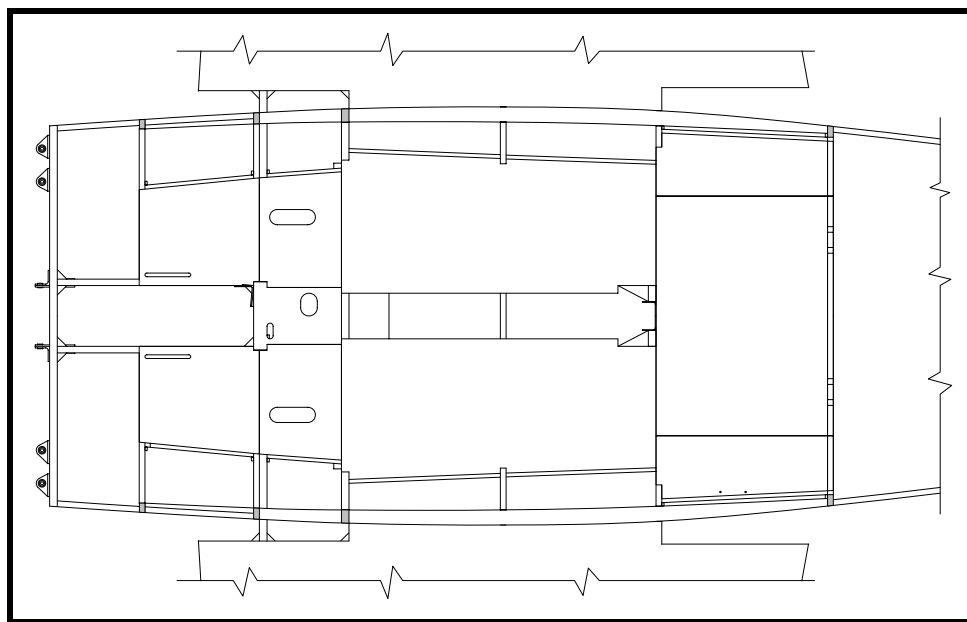

Figure 27
- ❑ Install the 10x15 spruce strips on the aft end of the center removable luggage compartment floor. These strips are permanently glued in place to the removable floor and provide a “lip” for the rear cockpit bulkhead. See Figure 27, which also shows the blocks installed in the next step.
- ❑ Install the two spruce blocks located at B.L. 200. These provide two places for screws to fasten the rear cockpit bulkhead. See Figure 27.